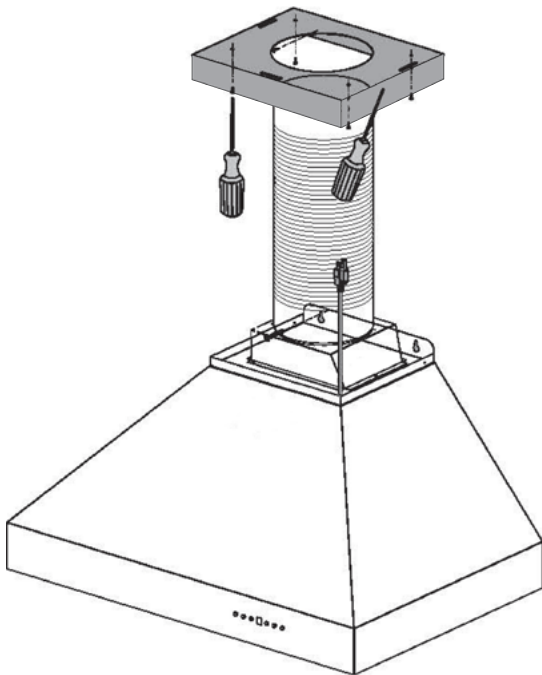

Figure 9
1. Secure the crown molding bracket to the ceiling directly above the range hood by using the hardware provided with the crown molding. *Figure 9*